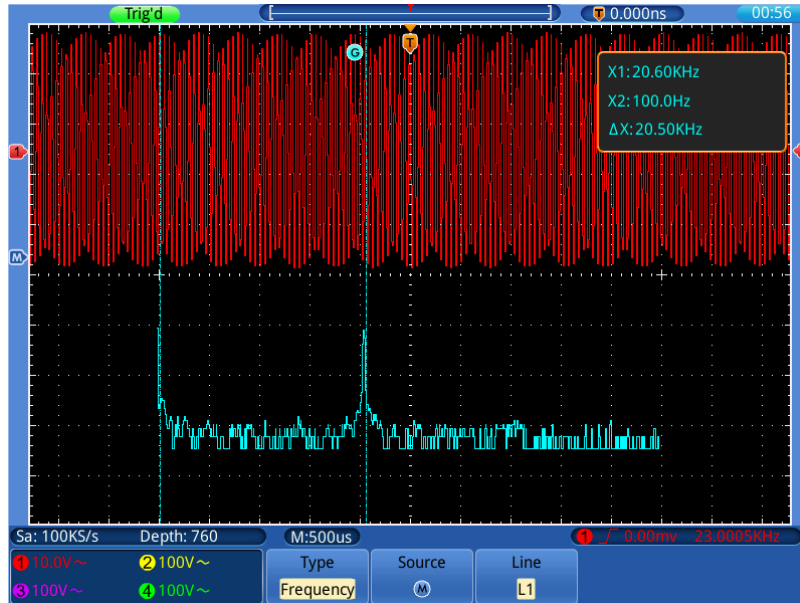

Figure 0-13 Wave of Freq cursor measurement
4. Select **Line** in the bottom menu; select **L1** in the right menu. The **G** icon will appear beside the dotted line of L1, represents you can turn the **G** knob to adjust the position of L1. Select **L2** to adjust the position of L2. Select **L1&L2** to adjust the two cursors together. The cursor measure window at the top right shows the present position of two cursors and the absolute value of frequency difference (see *Figure 0-13*).